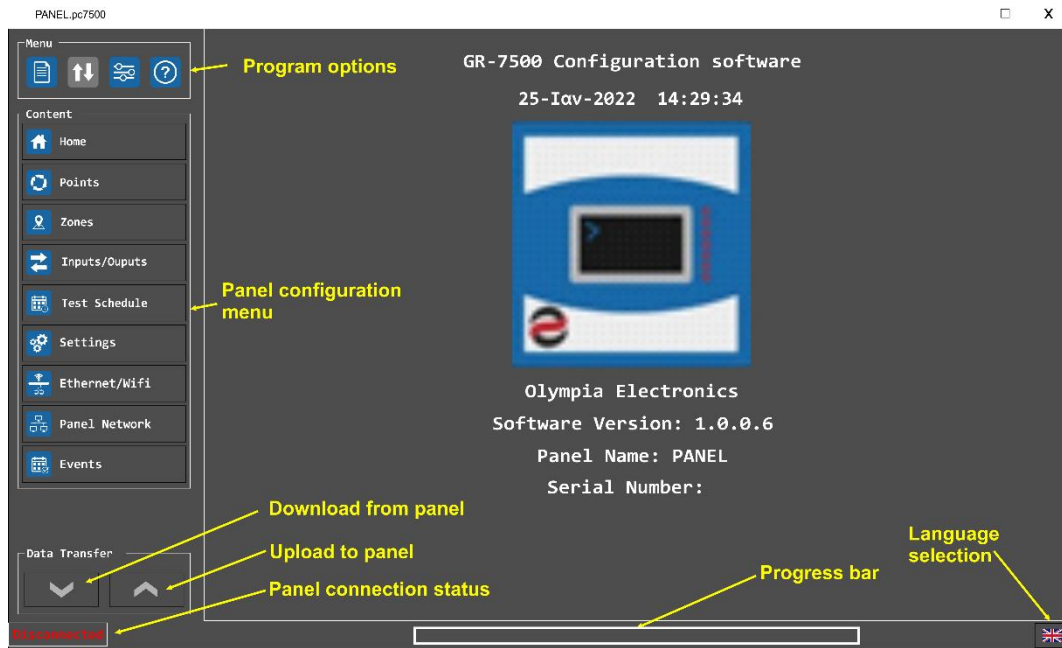

Figure 18
5. If the connection is successful, the connection status on the software (Figure 18, “Panel connection status”) will change from “Disconnected” and display the name of the panel and its serial number.